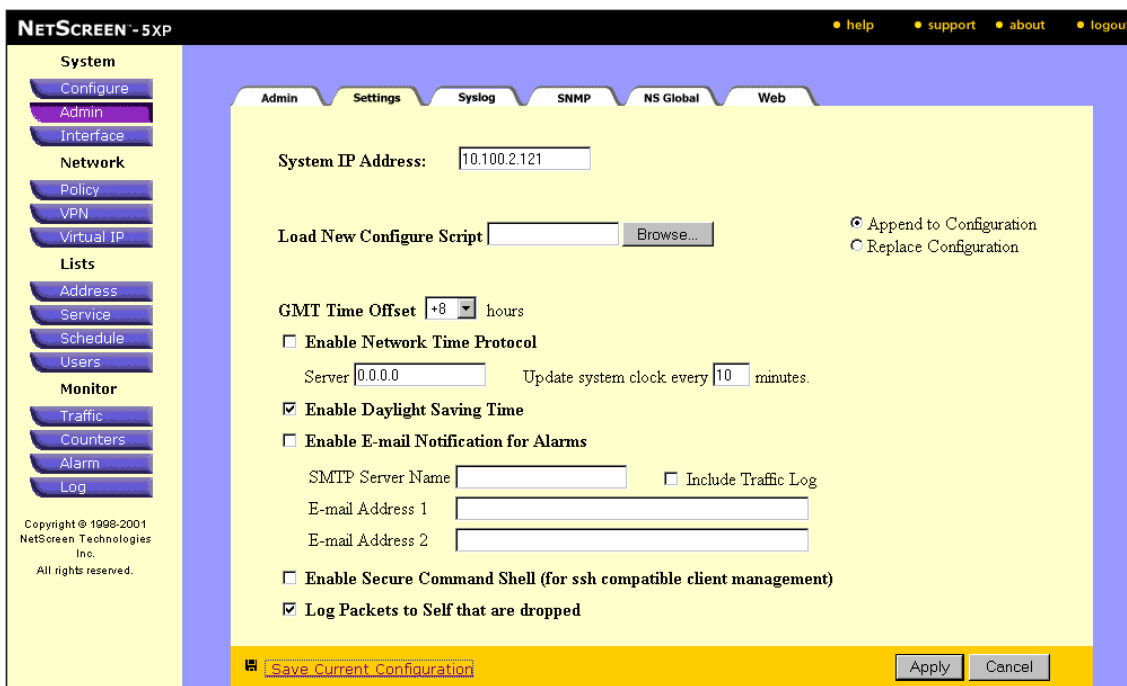

Figure 3-18 Administration Settings Menu
1. Click **Admin** in the menu column, click the **Settings** tab, and then click the **Save Current Configuration** option, as shown in Figure 3-18.